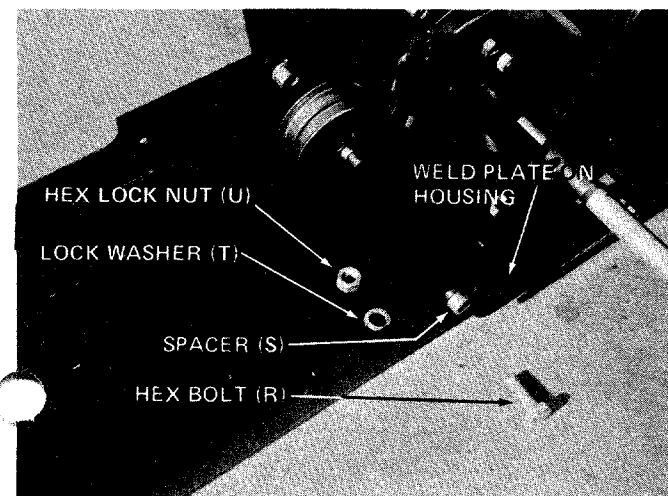

FIGURE 10
7. Assemble the front support channel to the snow thrower housing. Place the front support channel between weld plates on housing. On one side, place spacers (S) between channel and housing and secure with hex bolts (R), lock washers (T) and hex lock nuts (W). See figure 10. Just start nuts on by hand. Using a drift pin or punch on by hand. Using a drift pin or punch on the other side, line up spacers (S) between channel and housing and secure in same manner. An adjustable wrench and a 3/4" wrench is required. **Tighten securely.**